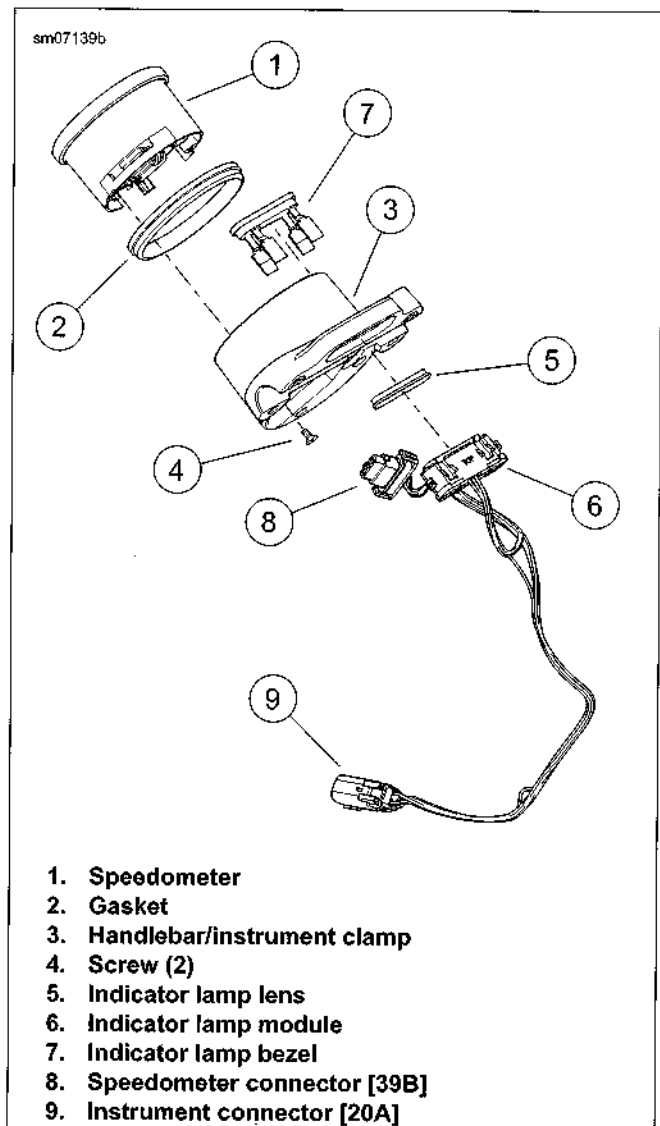

Figure 6-6. Speedometer: XL 1200C/CP/CA
1. See Figure 6-6. Install front gasket (2) on speedometer (1).
2. Thread speedometer harness and connector [39B] (8) through housing/clamp (3).